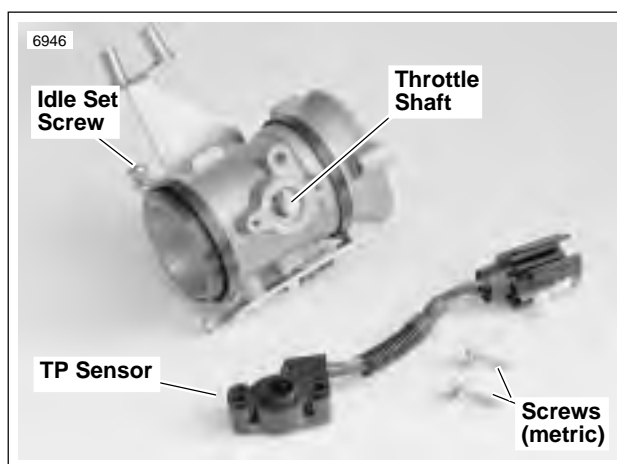

Figure 4-79. Throttle Position Sensor
3. See Figure 4-79. Remove two screws and washers (2) (metric) to detach TP sensor.
1. See Figure 4-79. Attach TP sensor with two screws and washers (2) (metric).